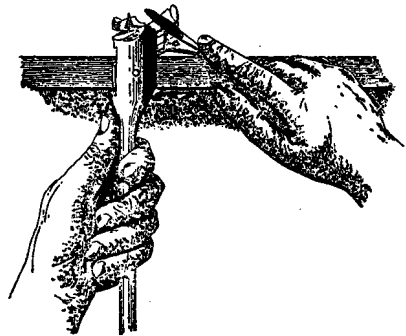

FIGURE 13.
- (5) *Resharpener Edge of Cutter*—Move the cutter out to the maximum size hole that the bit is used for. Hold the bit in the left hand with the point up and back of the cutter, resting on a solid support as shown in Figure 13. With an auger bit file, sharpen the cutting edge using light strokes keeping the bevel the same as it was when new. Test the edge by drawing a small stick of wood across the cutting edge. If a sliver of wood is easily removed, the cutting edge is satisfactory for use.
- (6) *Squaring Shank*—Maintain in accordance with paragraph 9.01 a. (6).